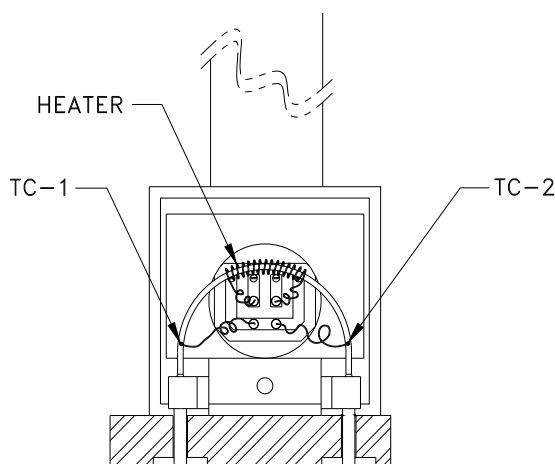

FIG 3.1
The Hastings HFM-201/HFC-203 series instruments operate on a unique thermal electric principle whereby a metallic capillary tube is heated uniformly by a resistance winding attached to the midpoint of the capillary (see Figure 3.1). Thermocouples TC-1 and TC-2 are welded at equal distances from the midpoint and develop equal outputs at zero flow.
**ACTION:** Unplug connector J2. Check the following resistance: The resistance between pins 2 & 3 of the sensor should be approximately 2500 ohms (see Figure 3.1 on page 8). The resistance between pins 1 & 4 should be approximately 2.3 ohms. The resistance between pins 2 & 3 and the base of the sensor should be essentially infinite. If not, replace the sensor unit. If sensor reads O.K., check the voltage output on pins 2 & 3 of the jack in the board. If it does not read approximately 22 VDC then replace op-amp U2.